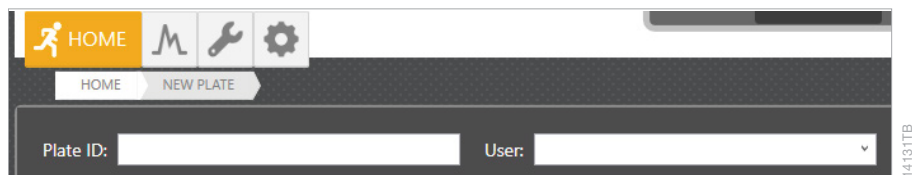

Figure 8. 'Plate ID' and 'User' fields of the plate screen.
2. Use the default Plate ID that includes date and time or enter information into the 'Plate ID' field (Figure 8).
3. If desired, enter user information into the 'User' field (Figure 8).
Note: The 'User' field is a user-defined section that can be used to search or filter previously created or completed plates (refer to the *Spectrum CE System Operating Manual #TMD052* for information on reviewing plate records). Previously entered user information is available via the drop-down option on the right side of the field (Figure 8).